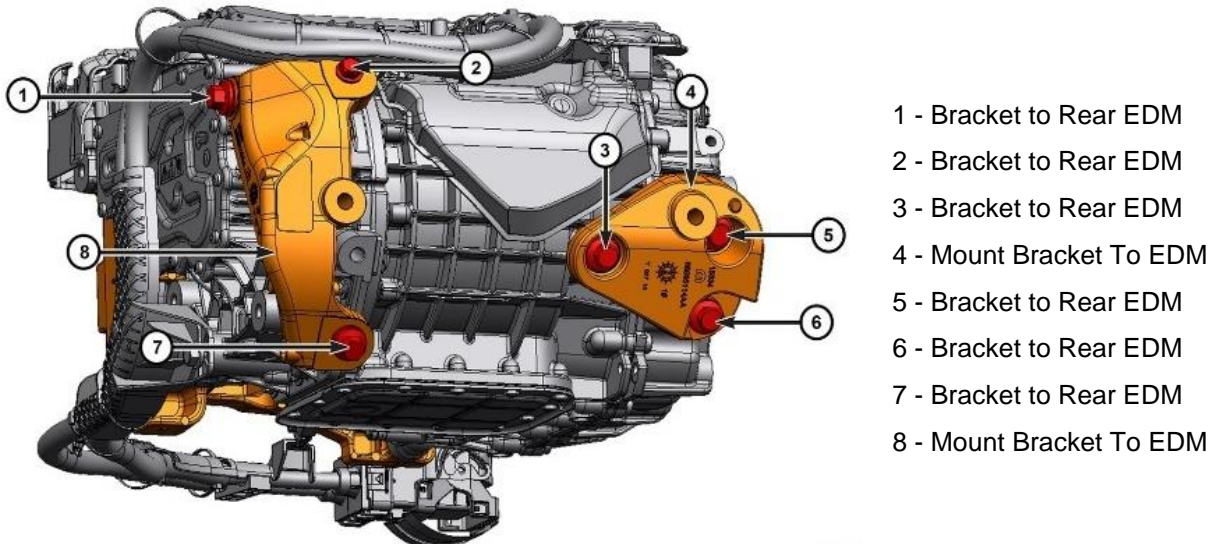

Figure 42 – EDM Rear Mount Brackets
84. Remove the bolts and remove both rear mount brackets to the EDM (Figure 42).